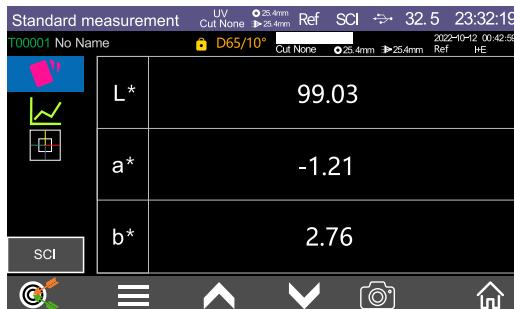
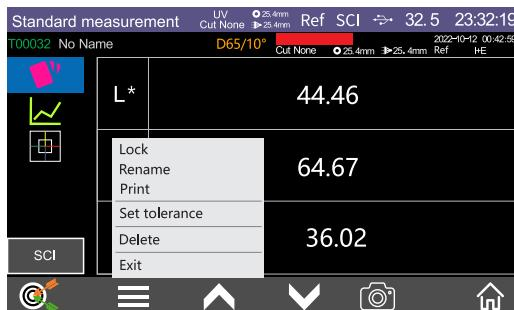

Figure 14 Standard Measurement Interface
Figure 15 Standard Measurement
(18) Sub-menu : Click  , the options: lock, rename, print, set tolerance, delete, exit, as shown in Figure 15.
Enter the standard sample measurement interface (FIG. 2) after the above preparation are completed, put the tested sample at the reflection test port of the instrument, press the measurement key to start the measurement, and the buzzer will make a "drop" sound, while the LED indicator will blink, until the flashing stops, the buzzer will make a "drop" sound again, that is, the measurement is completed. that interface is shown in Figure 14, Figure 15 and Figure 16.